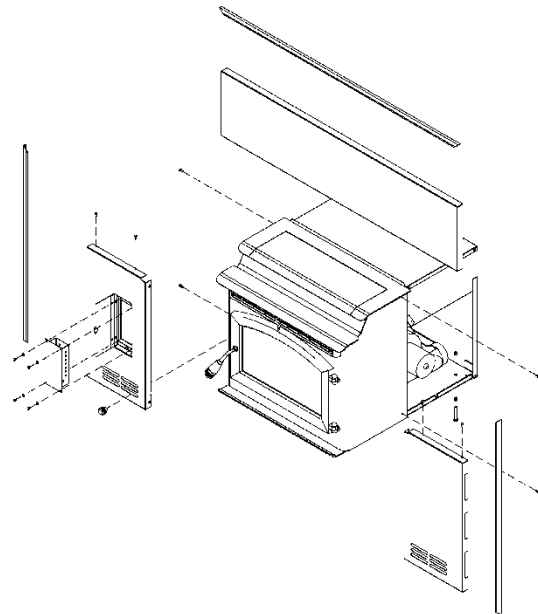

Figure 12
(Refer to Figure 12)
- The green light located above the On/Off button (in the On/Off box) will flash during the ignition start-up period. (See figure 12)